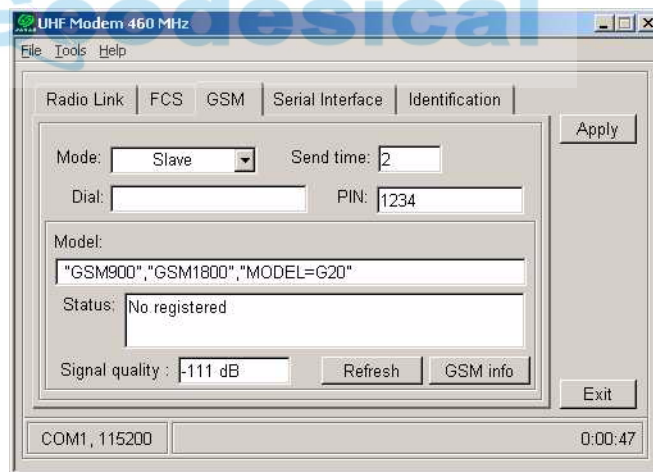

Figure 2-27. GSM Tab
2. Click the **GSM** tab (Figure 2-27).